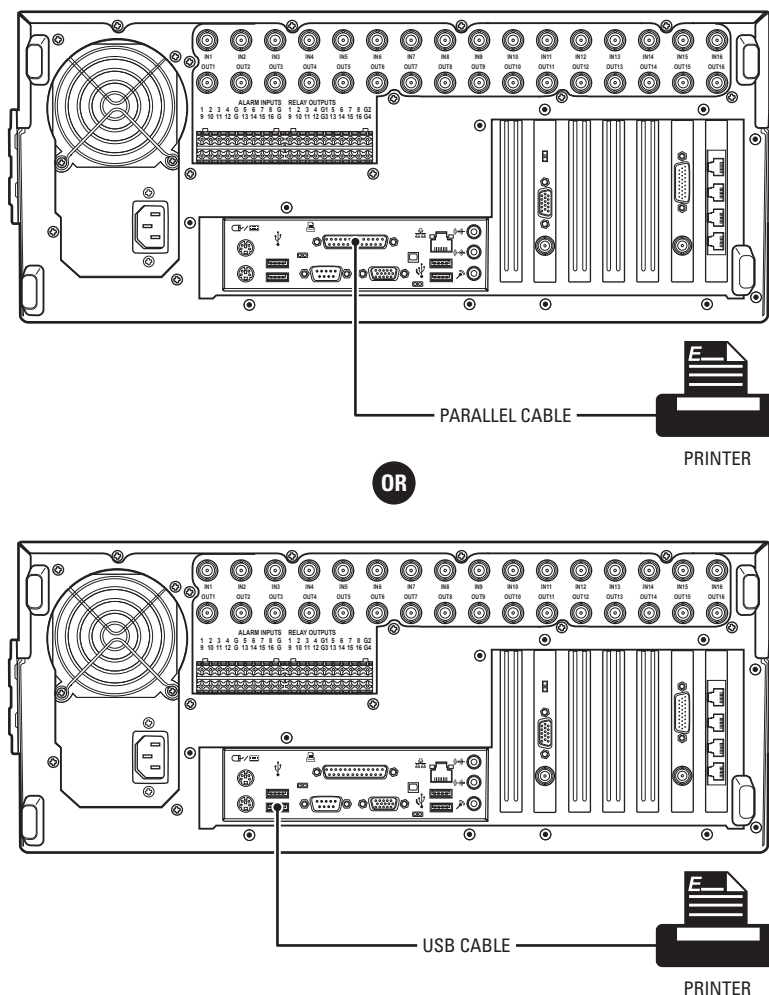

Figure 39. Printer Connection
2. Connect the printer (refer to Figure 39).